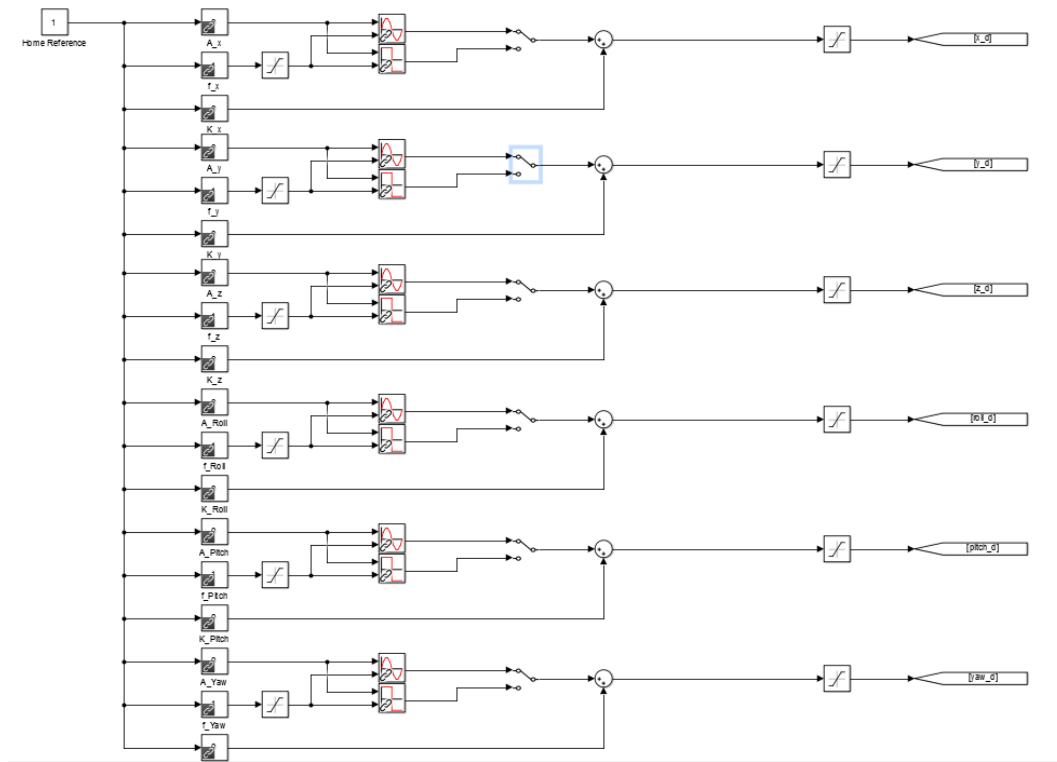

Figure 2.6: Hexapod world coordinate position commands
7. Change the values of the Slider Gain blocks in the *Desired Position Reference* block, shown in Figure 2.6 subsystem, gradually to begin commanding a position command to the top stage.